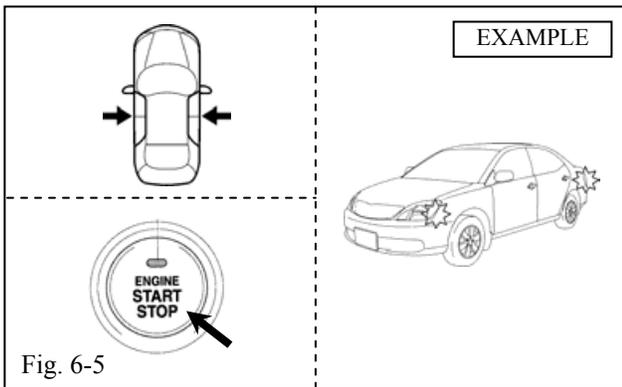

Fig. 6-5
- (f) Close all doors. Cycle the Smart Key ignition button from “OFF” to “ON” five (5) times. (Fig. 6-5)
- (g) Once the fifth cycle has been completed, the hazard lights flash once. (Fig. 6-5)